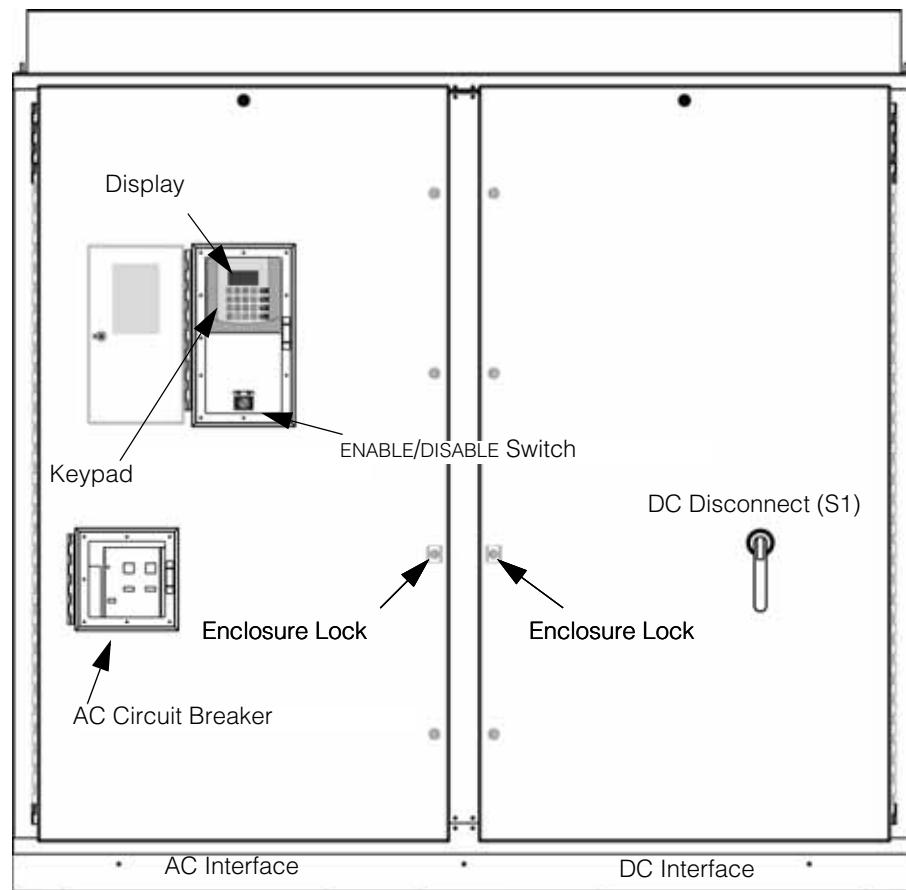

Figure 1-7 Operator Interface Components
- Figure 1-7 Operator Interface Components ----- 1-10
The Xantrex GT500 MVX and Xantrex GT500 MVX PG incorporate a maintained position ENABLE/DISABLE switch located on the left front door, under the keypad, as shown in Figure 1-7. Under normal operating conditions, the ENABLE/DISABLE switch is in the ENABLE position. Turning the switch to DISABLE initiates an immediate controlled shutdown of the Xantrex GT500 MVX or Xantrex GT500 MVX PG and opens both the main AC and DC contactors within the unit. The main AC and DC contactors cannot be closed unless the switch is in the ENABLE position. The Xantrex GT500 MVX or Xantrex GT500 MVX PG is prevented from restarting until the ENABLE/DISABLE switch is turned back to the ENABLE position.
The internal AC circuit breaker can be opened by accessing the small door on the main AC compartment door as shown in Figure 1-7 on page 1-10. The PUSH TO OPEN button (see Figure 1-9) will open the internal AC circuit breaker and interrupt the main AC grid connection to the inverter. The PUSH TO OPEN button is not the preferred method of orderly shutdown while the inverter is operating. Perform a controlled shutdown by using the ENABLE/DISABLE switch before activating the PUSH TO OPEN button. To close the circuit breaker, the closing spring must be charged. See “System Startup” in the Xantrex GT500 MVX and
The Xantrex GT500 MVX and Xantrex GT500 MVX PG are equipped with a DC disconnect handle to interrupt the incoming and outgoing power (see Figure 1-7 on page 1-10). The DC disconnect handle and shaft provide a mechanical door interlock for DC interface sections. The doors cannot be opened when the switch is in the ON position. The handle provides a lockout for both the open and closed positions.